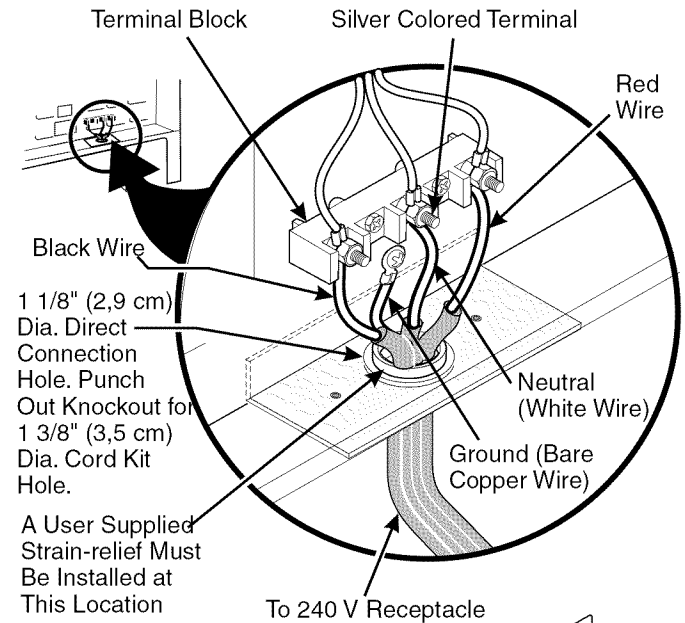

Figure 9
Where local codes does NOT permit connection of the frame grounding conductor to the neutral wire of the copper power supply cord (see Figure 9):
3. Using the nuts supplied with the literature package, connect the ground wire (green) of the copper power supply cord to the frame of the appliance with the ground screw, using the hole in the frame where the ground strap was removed (see Figure 9).
If the appliance is connected directly to the circuit breaker, fuse box or junction box, use flexible, armored or nonmetallic sheathed copper cable (with grounding wire). Supply a U.L. listed strain-relief at each end of the cable. At the appliance end, the cable goes through the Direct Connection Hole (see Figure 9) on the Cord Mounting Plate. Wire sizes (copper wire only) and connections must conform to the rating of the appliance.
2. Follow instructions on previous page for Four Conductor Wire Connection to Range (Fig. 9).